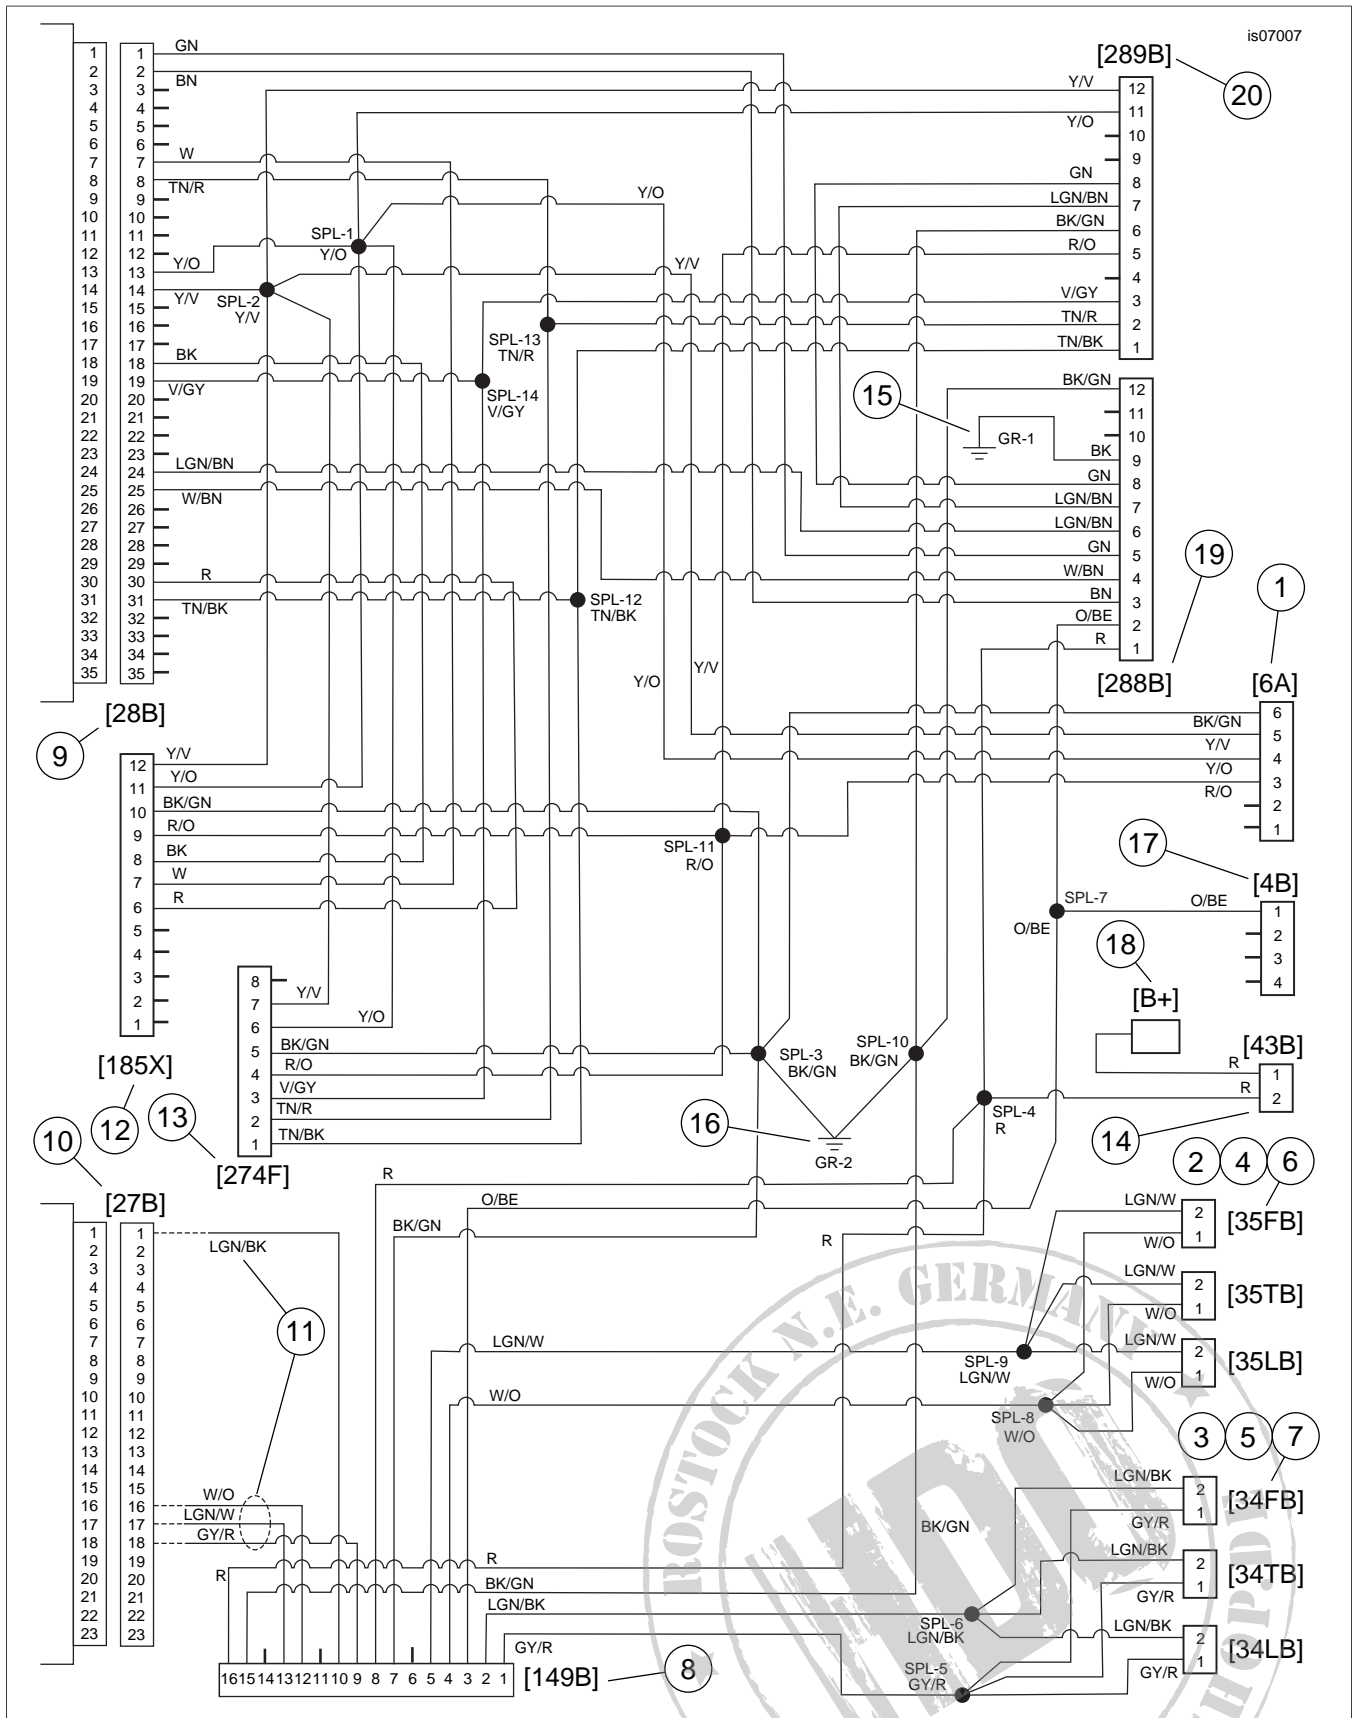

Figure 3. Wiring Diagram, Audio Harness 69200321
See Figure 3 and Table 2, Item 1. Plug the black six-way audio harness pin housing [6A] (labeled "CONNECTOR 6") from the **new** audio harness into the vehicle interconnect harness socket housing [6B].
- Four inch (10.2 cm) long, labeled "AMP (149)", with 16-way Molex socket housing [149B] (Item 8) for front amplifier.
4. See Figure 3 and Table 2. Plug the two-way connector [35FB] (2) into the left fairing speaker. Plug the two-way connector [35TB] (4) into the left tweeter.
5. Plug the 16-way Molex socket housing [149B] (8) into the front amplifier.
7. Unplug the **23-way** Amp socket housing [27B] (Item 10) from the back of the radio. Open the secondary lock per instructions in the service manual appendix. Insert the four terminated wires (11) coming from the large conduit into the empty cavities of the socket housing as follows: